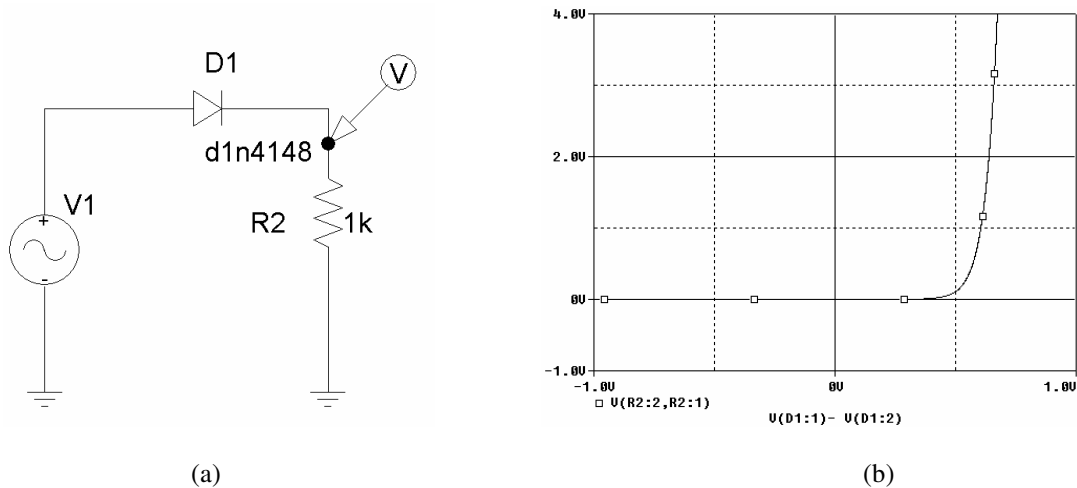

Fig 3. (a) Diode Test Circuit for I-V Characteristic in PSpice and (b) Resulting Waveform
Diode I-V Characteristics: to examine the I-V characteristics of a diode one can setup a test circuit like that shown in Fig 3(a). Measure the voltage drop across the diode (V_D) and across the resistor (R_I) for different values of V1 (note carefully the polarities of the measured voltage drops, and the current now being scaled up by the resistor value). The resulting measurement points should lie on the line shown in Fig 3(b), which clearly shows the exponential relationship previously given for the diode current.
1. Using PSpice, set up the circuit shown in Fig 3(a). Perform a DC sweep analysis for the source V1 from -1 to 1V. To do that, in the menu bar go to Analysis --> Setup --> check DC sweep --> DC sweep --> choose voltage source as your variable type, and input the source name. Then choose linear sweep and set your start and end values. Use an increment of at most 5mV. **Note: since the added source is an AC source, initialize its configurable parameters to 0. Otherwise, you will receive error messages and the simulation will not run.**
2. The resulting waveform will have the voltage drop across the resistor on the Y-axis and the swept voltage on the X-axis. To obtain the waveform in Fig 3(b), you will need to modify the parameter for the X-axis. To do so, double click on the X-axis --> Axis Variable. In the trace expression, select the node potential V(D1:1), insert a – sign, then select the node potential V(D1:2) --> OK. Your waveform should now resemble Fig 3(b). Attach the waveform to your pre-lab report. What is the approximate ON voltage of the diode?